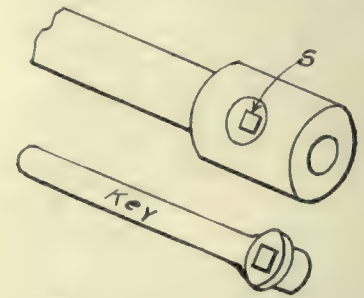

Fig. 3.—Countersunk Set-Screw.
This hazard may be overcome at a trifling cost in any of the following ways. (1) By countersinking, as in Fig. 3. The set screw may be adjusted by a box-key shown therewith. Of course this method required either a shorter screw or a thicker collar.